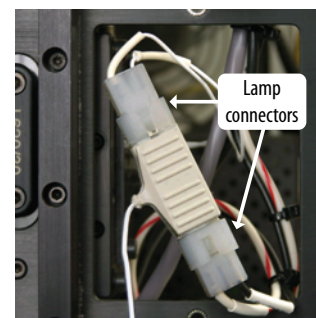

Figure 5. Plug the EPM connector into the lamp connectors.
- Be sure the lamp switch is turned off, then plug the EPM electrical connector into the lamp connection, then turn the lamp on (**Figure 5**).